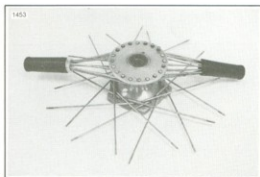

Figure 2-22. Bundling Top Spokes
4. See Figure 2-22. With all 40 spokes inserted in hub, group all spokes on top flange into 2 bundles. Secure each group with throttle grips or tape to keep the spokes together.